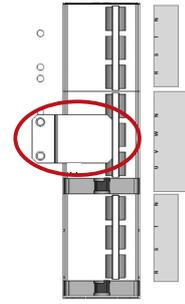
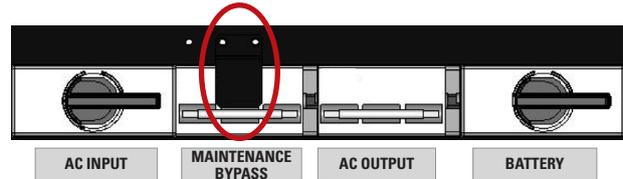

Fig. 61. Mechanical lock of the UPS maintenance bypass switch, 30 kVA and 40 kVA units.
Fig. 62. Mechanical lock of the UPS maintenance bypass switch, 50 kVA, 60 kVA and 80 kVA units.
5. Remove the mechanical lock of the UPS manual bypass switch: unscrew the screws provided and remove the metal cover (see Fig. 61 and Fig. 62).
10. Replace the mechanical lock of the UPS manual bypass switch: screw the metal cover in using the screws provided (see Fig. 61 and Fig. 62).